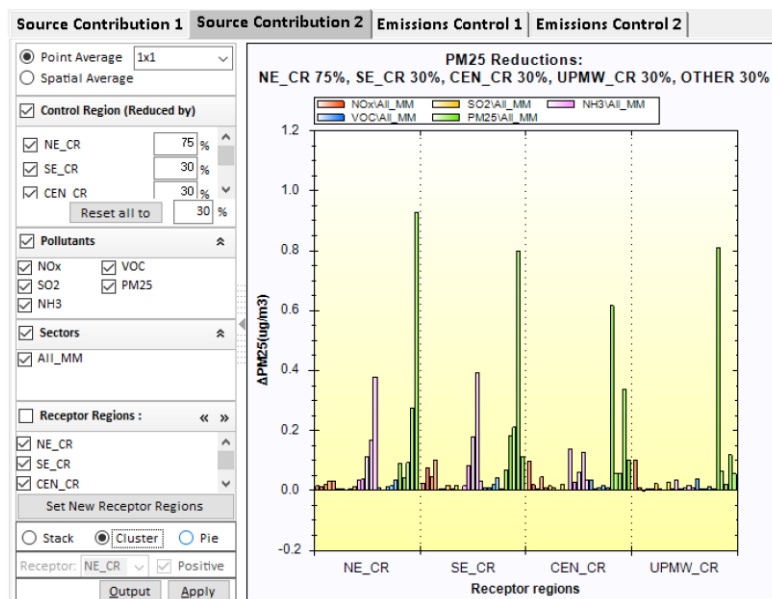

Fig. 67 Cluster chart in Source Contribution 2
**Cluster chart:** This option shows the cluster impacts of PM2.5 or O3 decrease (Air quality improvements) caused by the emission control scenario from current configuration options as shown in Fig. 67.